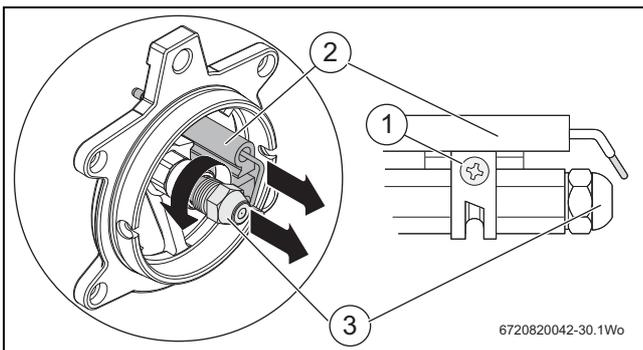
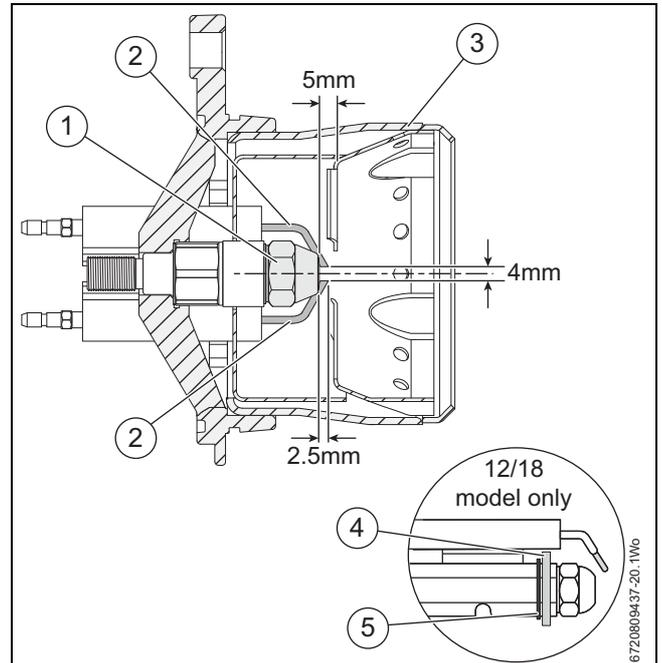

Fig. 36 Nozzle access
Fig. 37 Nozzle and electrode alignment
- ▶ Before removing or fitting a nozzle [3] refer to figure 36 and loosen screw [1] and move the electrodes [2] forward. After refitting check that the electrode gaps are correct, as shown in figure 37.
- ▶ The 12/18 model has a brass deflection washer [4] figure 37 and locating circlip [5] behind the nozzle. These must be in place for the correct operation of the burner.
Refer to figure 37: